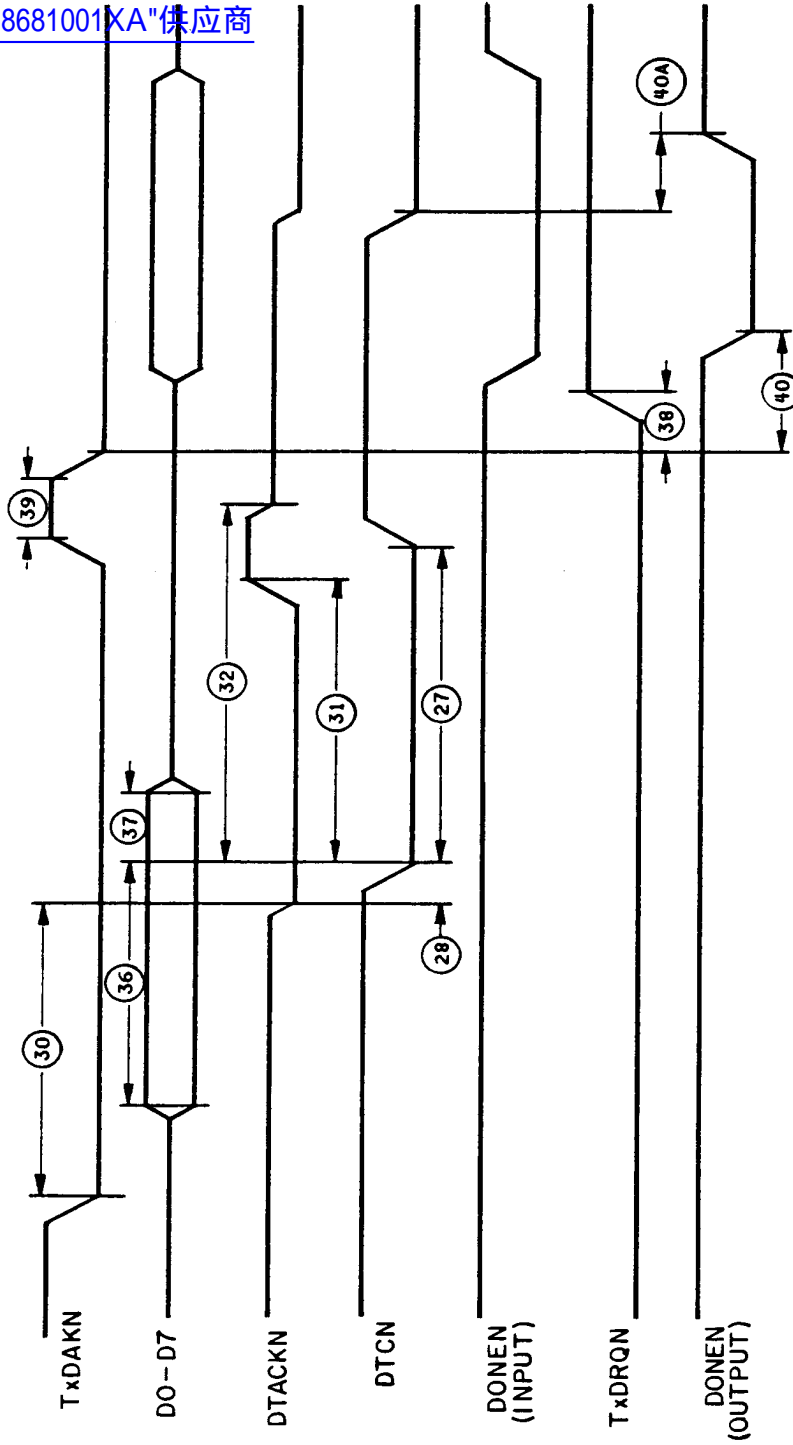

FIGURE 14. DMA transmit write timing - single address DMA mode.
- 6/ Execution of the valid command (after it is latched) requires three falling edges of X1 (see figure 14).